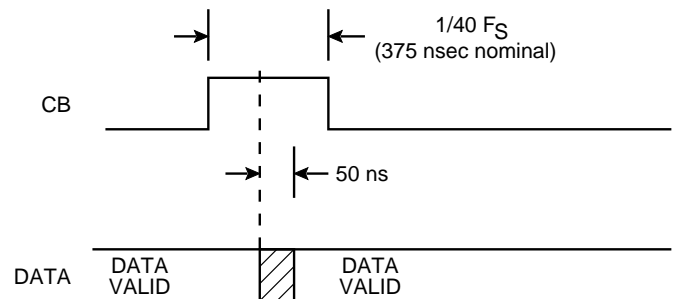

FIGURE 15. CONVERTER BUSY TIMING
The Converter Busy (CB) signal indicates that the tracking converter output angle is changing 1 LSB. As shown in FIGURE 15, output data is valid 50 ns maximum after the middle of the CB pulse. CB pulse width is $1/40 F_s$, which is nominally 375 ns.